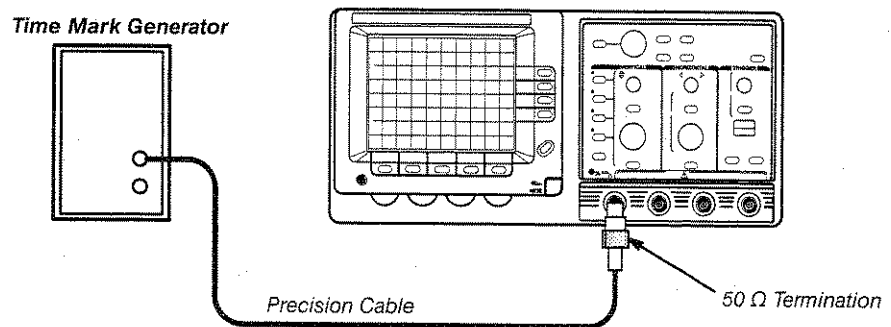

Figure 6-11: Dual Delay Test Setup
2. Connect the output of the time marker generator to the **CH 1** input as shown in Figure 6-11.